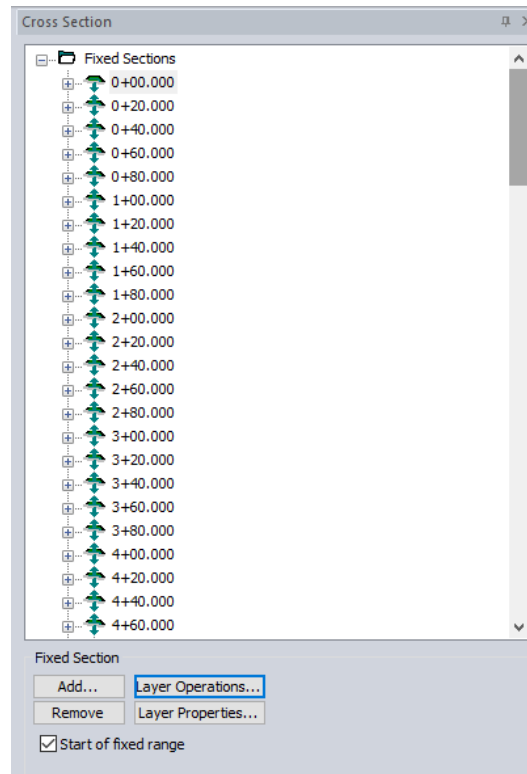

Figure 25-2 Cross Section Panel
9. Each section will be displayed in Cross Section panel. Refer to Figure 25-2.